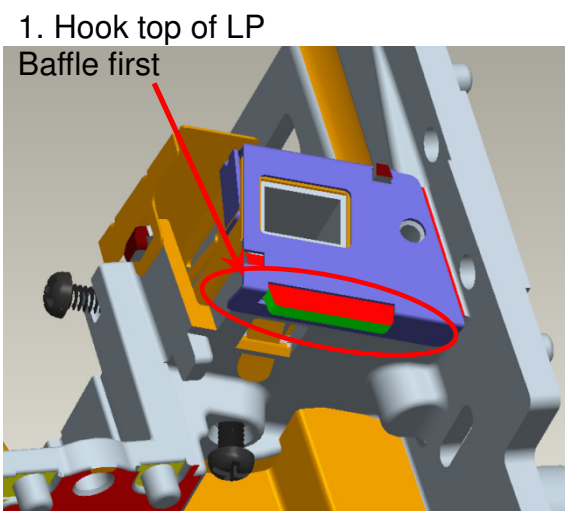
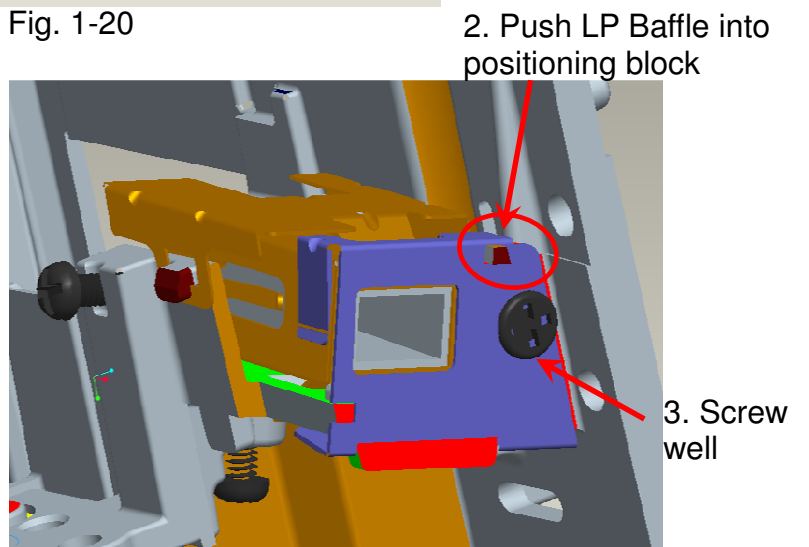

Fig. 1-21
Fig. 1-22
- (5) Assembly “Baffle LP”, Hook top of Baffle LP first (Fig. 1-21) & screws (M2) well (Fig. 1-22).